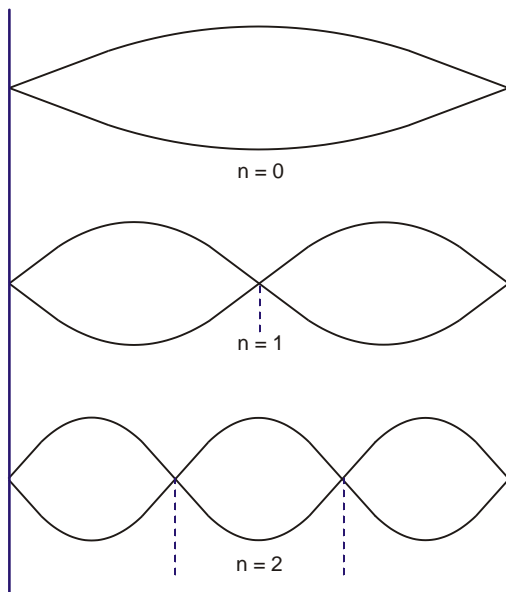

Fig. 3: Standing waves
This implies that the condition for resonance (5) is only fulfilled if the length L is an integer multiple of half the wavelength. The resonant frequency must correspond to this wavelength. In this case, n is the number of nodes in the oscillation. This is zero if there is only one anti-node in the fundamental oscillation (see Fig. 3).